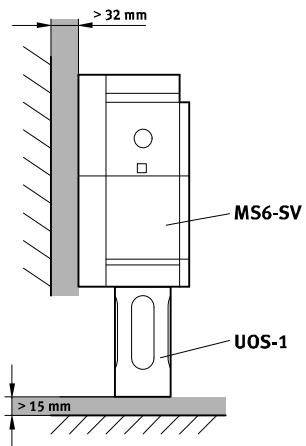

Fig. 14 Installation
- Comply with a minimum distance of 15 mm below the silencer (→ Fig. 14). The free space ensures trouble free exhausting.